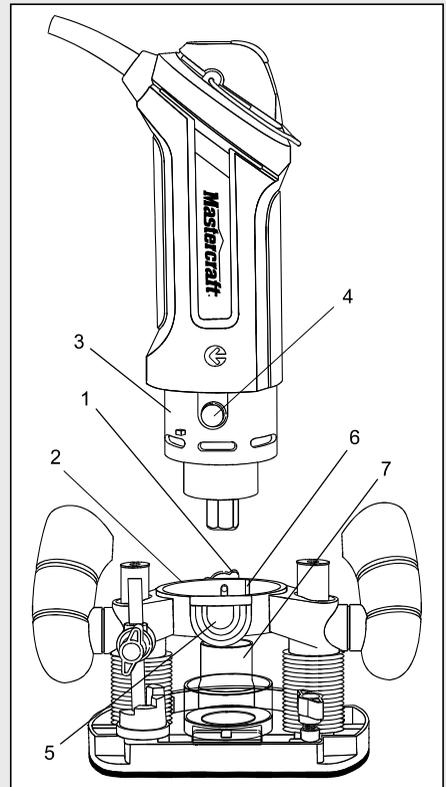
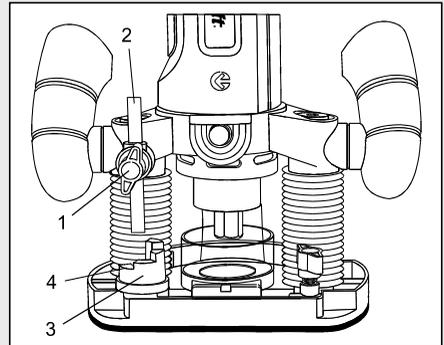
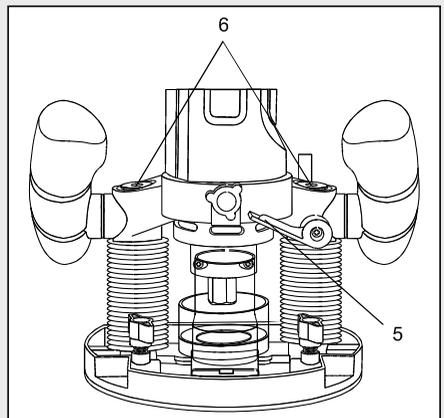

Fig. 15
Fig. 16
Fig. 17
2. Turn the router base locking knob (1) counter clockwise until it no longer protrudes inside the mounting collar (2) (Fig. 15).
3. Slide the router base mounting collar (3) onto the bottom of motor housing (3). Align the spindle locking button (4) with the spindle locking button opening (5). Align the key (6) on the motor housing with the matching key way in the mounting collar.
1. Loosen the depth stop locking knob (Fig. 15 on Page 27) (1) counter clockwise and raise the depth stop rod (2) to its maximum height and then retighten the locking knob to hold the depth rod in position (Fig. 16).
2. Rotate the plunge action turret (3) until the shortest stop (4) is under the depth stop rod.
3. Lift the height adjusting lever (5) upward to allow the upper section of the router base to slide on the plunge rods (6) (Fig. 17).
3. Adjust router base height to the correct routing depth (Fig. 17 on Page 28).